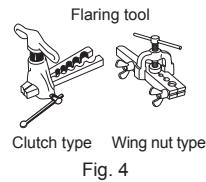

Fig. 4
- 4) Flaring work (Fig. 4, 5). Firmly hold copper pipe in the dimension shown in the table. Select A inch (mm) from the table according to the tool you use.